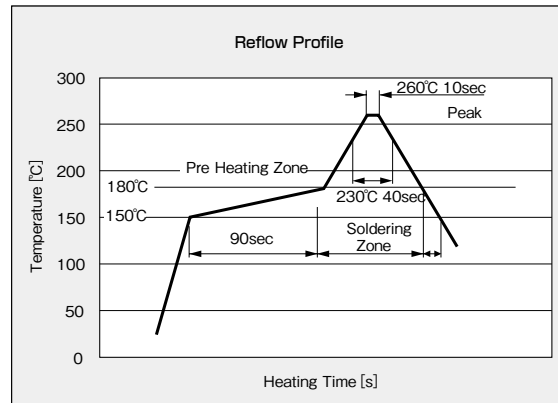

Figure.3 (Reference) Conditions of Reflow Profile
- (2) Reflow soldering: Maximum conditions as shown in Figure 3.
- (3) Hand-soldering: Solder the leads to PC board at the point (part from the body) at 260°C for 10 seconds or 350°C for less than 3 seconds. Please contact AKM to obtain the latest information about Superminimold-type
- (4) Use of resin flux is recommended.